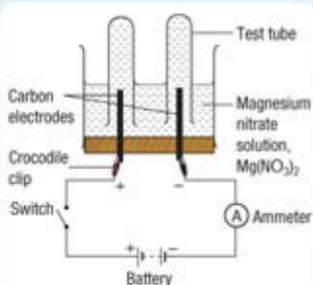

Figure 6.9
2. Fill completely two test tubes with  $0.5 \text{ mol dm}^{-3}$  magnesium nitrate solution,  $\text{Mg}(\text{NO}_3)_2$ , and invert both test tubes in the electrolytic cell (Figure 6.9).